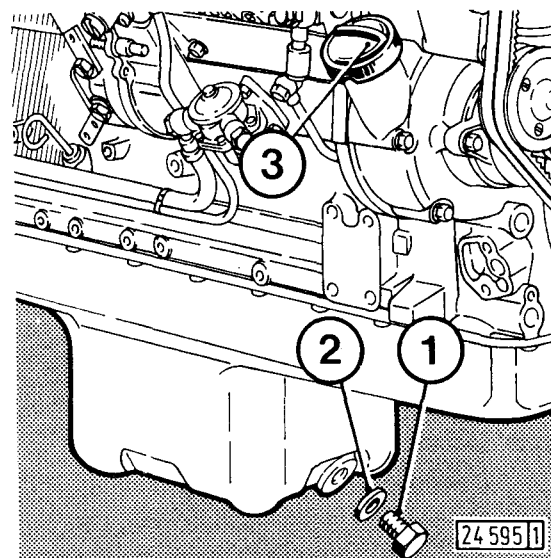
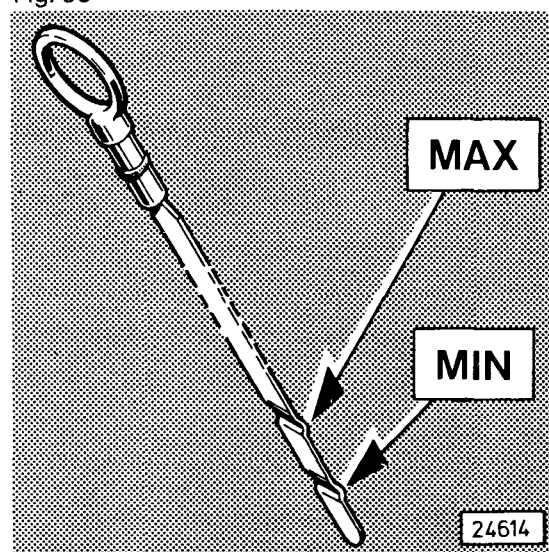

Fig. 38
Fig. 39
- Unscrew drain plug 1 (Fig. 38), after placing suitable receptacle underneath.
- Fill in fresh oil through filler neck 3 (Fig. 38) up to the upper dipstick mark (Max., Fig. 39).